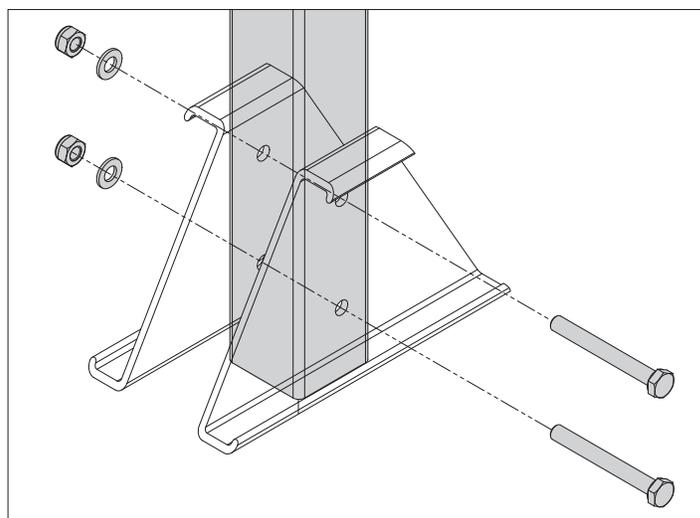

Fig. 4.7.2 Fasten the lower bracket to the support leg.
- When the rail is in the right position fix the suspensions with the bolts (fig. 4.7.2.).